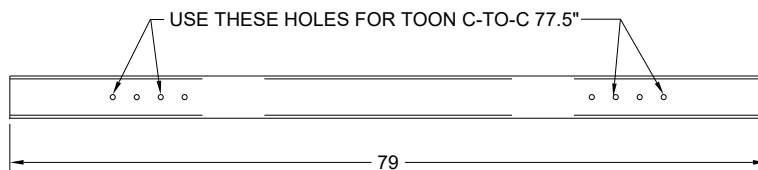

Figure 2-4.
1. **Refer to Figure 2-4.** The HL6-9K Adj Width Lift Arm Tritoon kit is designed for 77.5" center to center toons. The inner cross tube for the HL lift arms are drilled for other Toon C-to-C of 75.5" & 72.5". If other widths are necessary, drilling new holes in the Inner Cross Tube are needed.